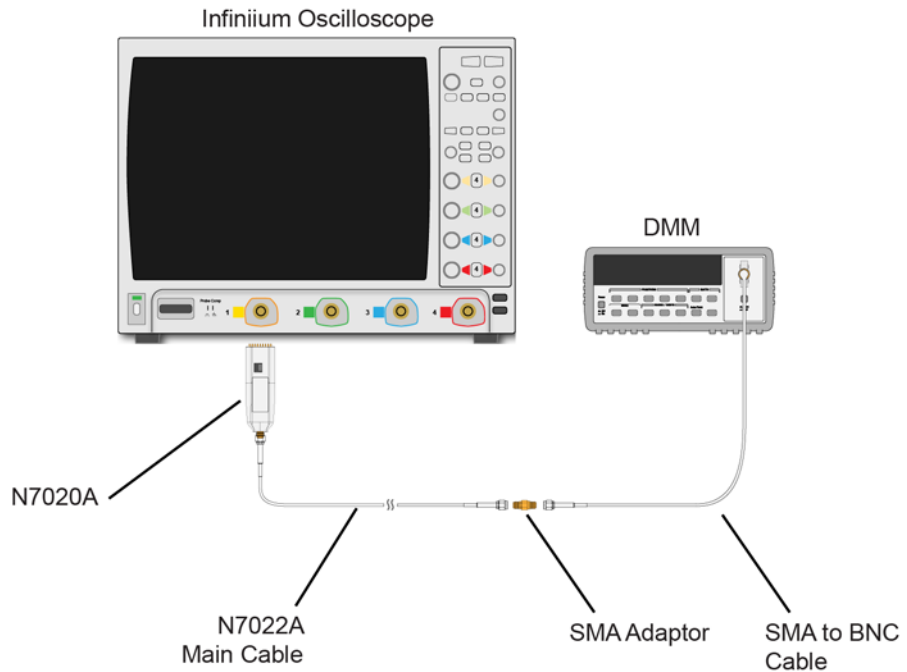

Figure 19 Test Setup
- 1 Connect the equipment as shown in Figure 19.